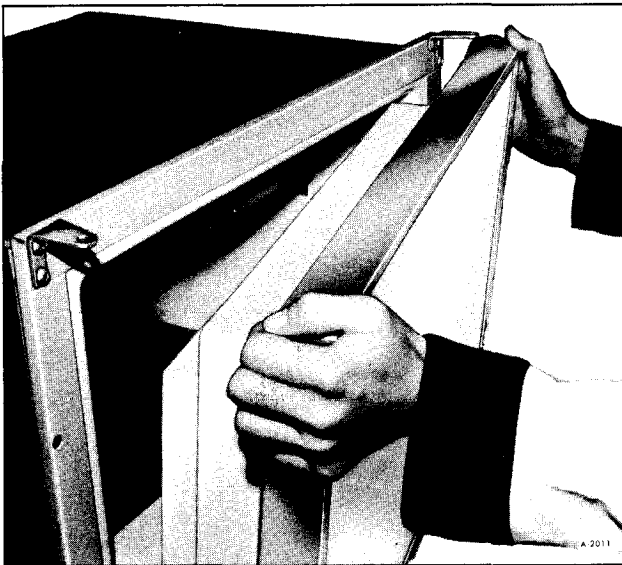

Figure 8—Removing Door
2. Tilt door out at top and lift door up and off bottom hinge pin, as shown in Figure 8.